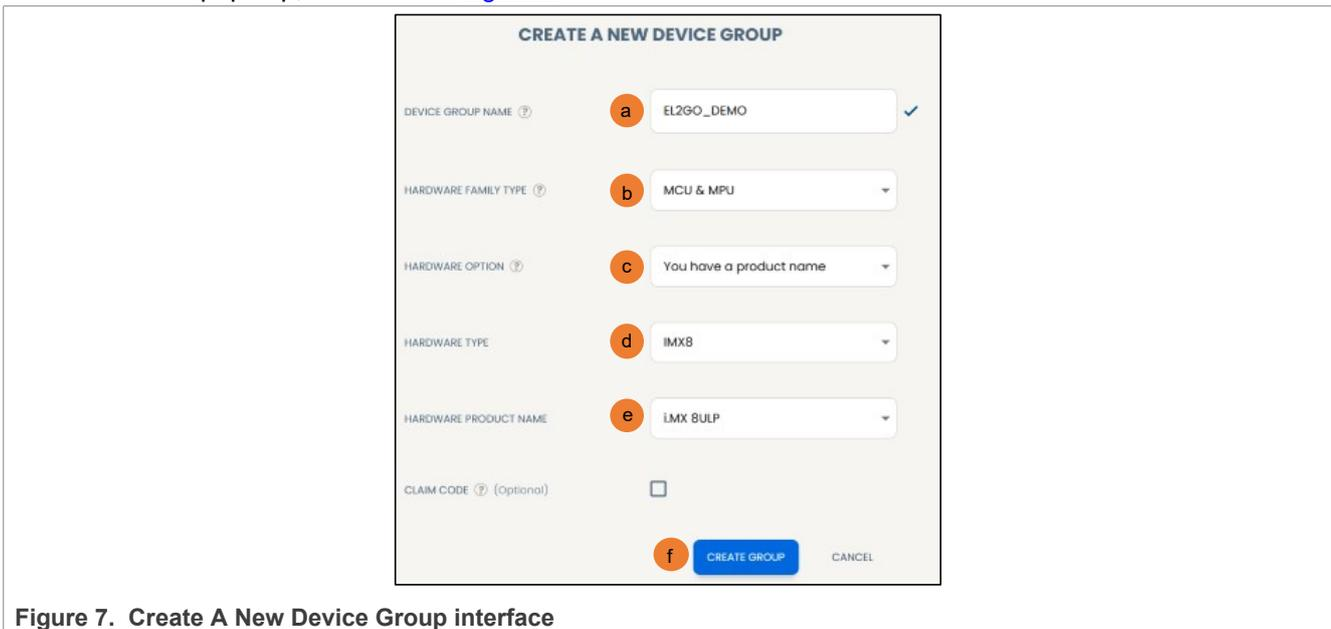

Figure 7. Create A New Device Group interface
2. An interface pops up, as shown in Figure 7.